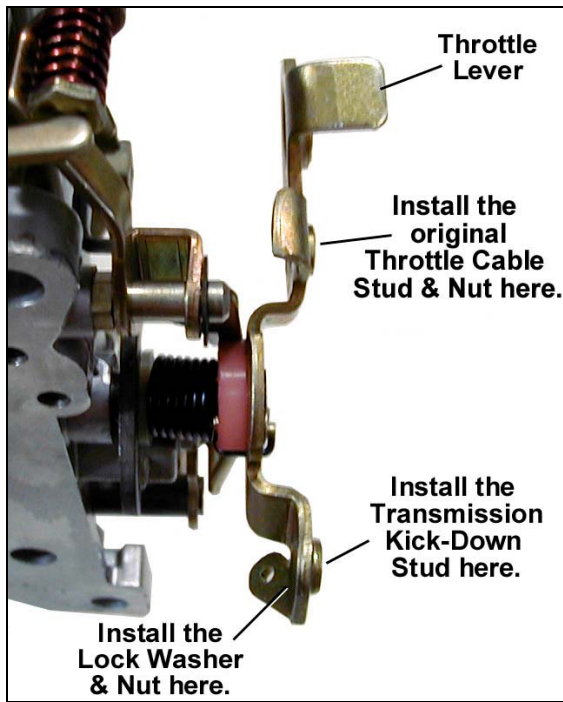

Figure 2
6. Remove the throttle cable ball and automatic transmission kickdown stud (if any) from the original carburetor. Mount these in similar locations on the Holley throttle lever. If the original throttle ball is too large, a new throttle ball is provided in the unassembled parts package. On Pontiac Firebird installations equipped with the 400 engine and automatic transmission, it may be necessary to install the long kickdown stud, nut, and lock washer supplied in the package. Tighten both nuts to 36 in./lbs. of torque. See Figure 2.